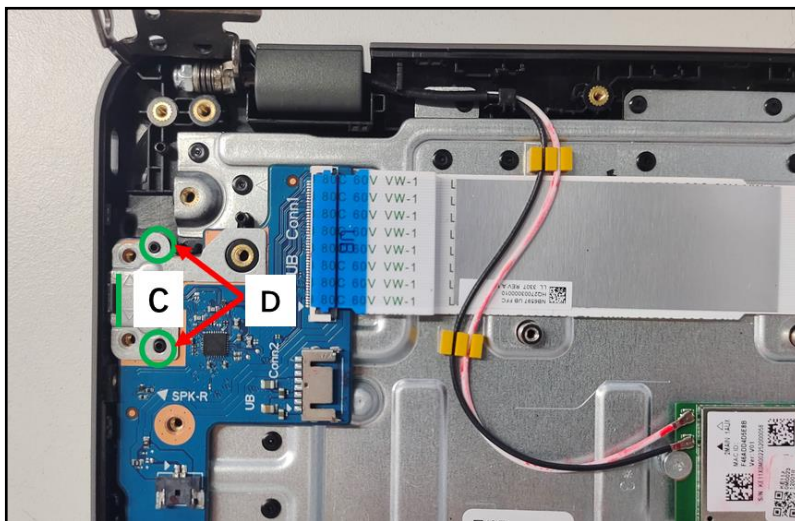

Figure 3-97. Replacing the USB Board
3. By aligning with the I/O port slot, slide and install the I/O bracket (C) onto the USB board. Ensure that the bracket is fully seated and secured to the guide pins (D) (Figure 3-97).